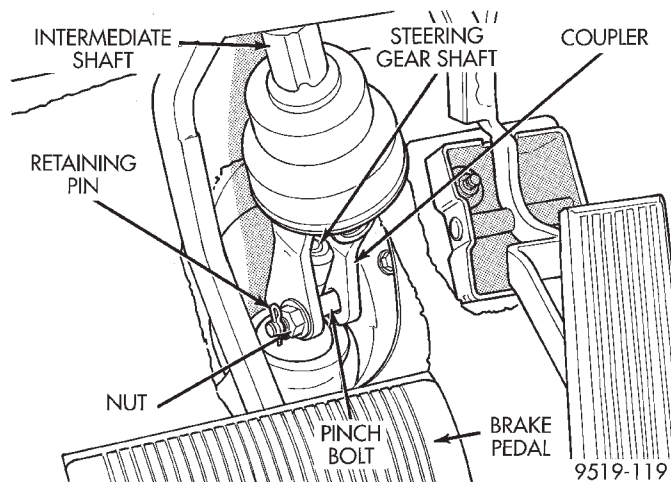
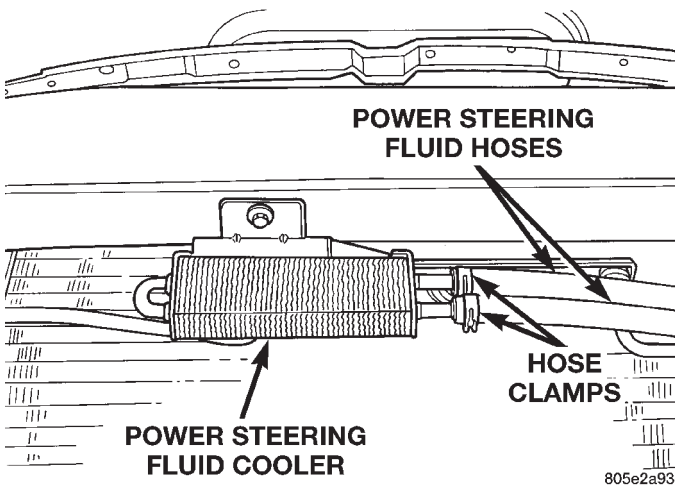

Fig. 39 Intermediate Shaft Coupler Attachment To Steering Gear
Fig. 40 Hose Clamps At Power Steering Fluid Cooler
(1) Remove intermediate steering shaft coupler (Fig. 39) from the steering gear shaft.
(6) Remove the hose clamps (Fig. 40) from the power steering fluid hoses. Drain power steering fluid from the hoses and the power steering fluid cooler.
(9) Install power steering fluid hoses on the power steering fluid cooler (Fig. 40). Install the hose clamps on the power steering fluid hoses. **Be sure hose clamps are installed on hose past the upset bead on the power steering oil cooler.**
(10) Install the front fascia and grill on the vehicle. Refer to Front Bumper/Fascia in Group 13 of this service manual for the proper procedure.
(11) Lower the vehicle to a point where front tires are just off the ground.
(12) Connect the steering column intermediate shaft on the shaft of the steering gear (Fig. 39). Install the coupler retaining pinch bolt and tighten to a torque of 27 N·m (240 in. lbs.). **Be sure to install the coupler retaining pinch bolt retention pin (Fig. 39).**
(13) Start the engine and let run for a few seconds. Then turn the engine off.
(14) Add fluid if necessary. Repeat the above procedure until the fluid level remains constant after running the engine.
(15) Start the engine. Slowly turn the steering wheel right and left, lightly contacting the wheel stops.
(16) Add power steering fluid if necessary.
(17) Stop the engine. Check the fluid level and refill as required.
(18) If the fluid is extremely foamy, allow the vehicle to stand a few minutes and repeat the above procedure.